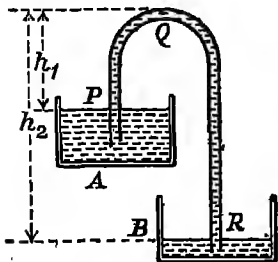

Fig. 206. The principle of the siphon.
**Expt. 256. To make a siphon** (Fig. 206). *A* and *B* are two vessels. *A* contains water and *B* is empty. *A* stands on a bench higher than *B*. *PQR* is a rubber tube fitted with a clip at the end near *R*. Open the clip, fill the tube *PQR* with water, and replace the clip. Put the end *P* of the tube in the water in *A*, and the end *R* in the vessel *B*. *Q* is the highest point reached by the tube. Remove the clip. Water flows out of *A* into *B*. Raise the end *R* until it is above the level of the water in *A*. The water no longer flows. Lower the end *R* slowly. As the end falls below the level of the water in *A* the water begins to flow again, and the lower the end *R* the faster is the flow.